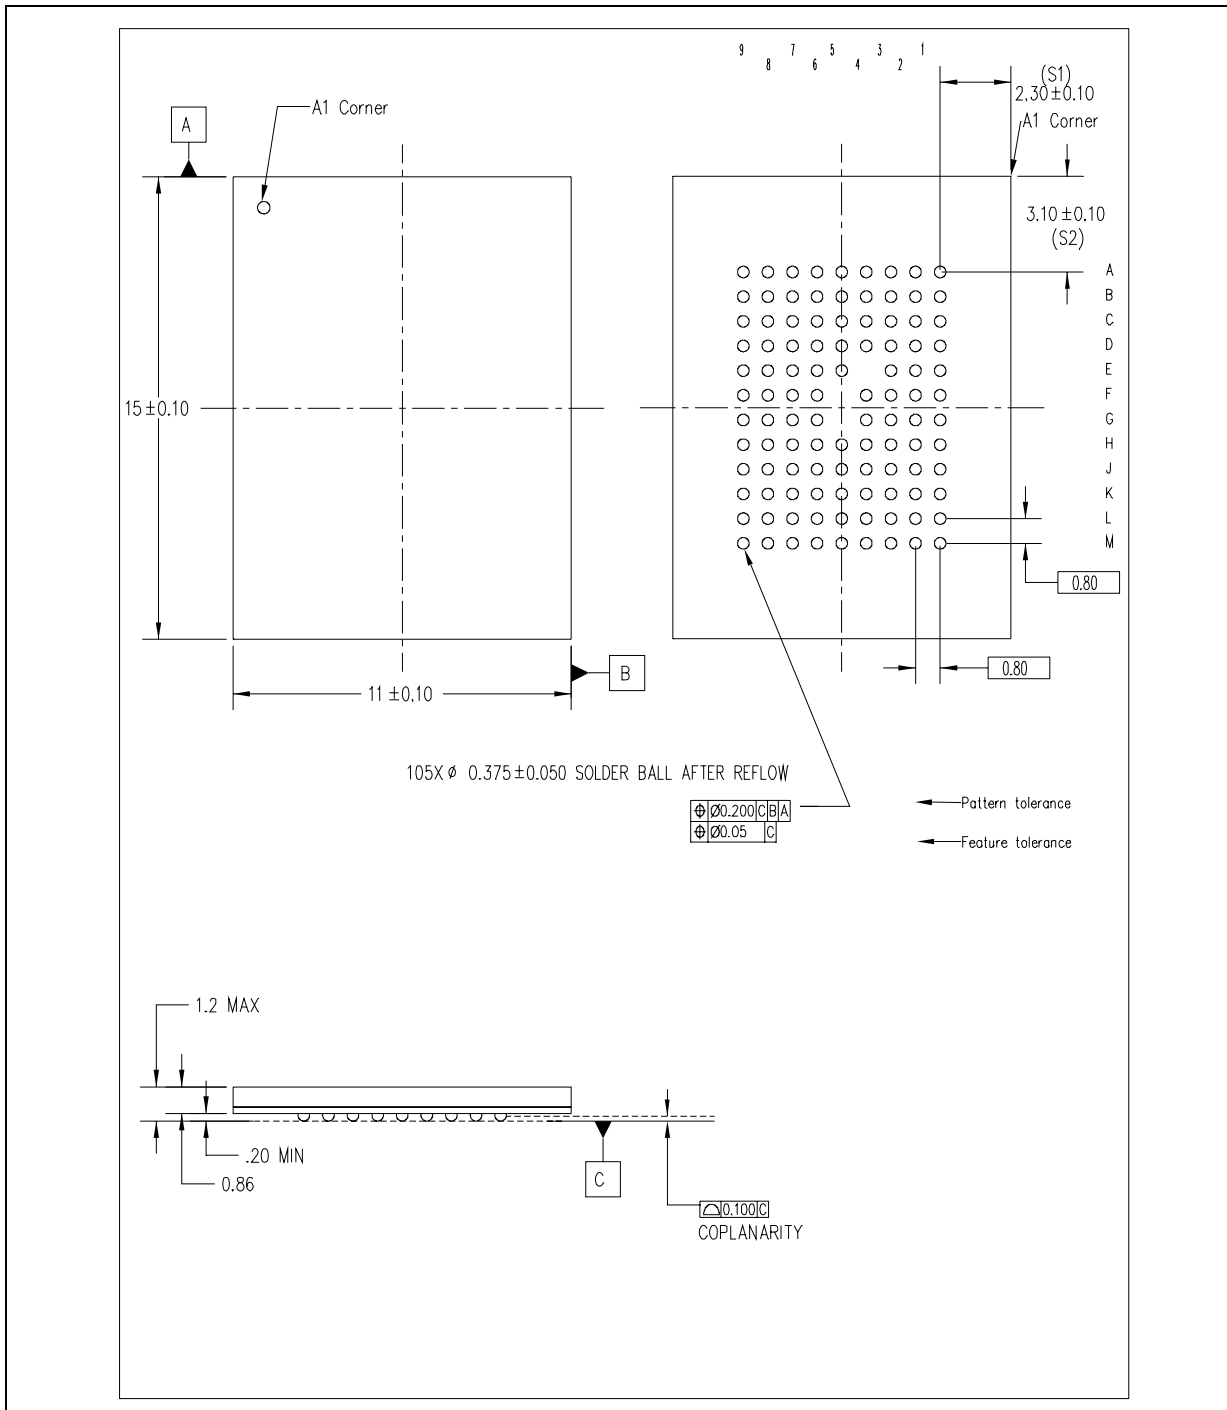

Figure 5. Mechanical Specifications for x16 Split Bus (165-ball) package (10x11x1.2 mm)
- Figure 5, "Mechanical Specifications for x16 Split Bus (165-ball) package (10x11x1.2 mm)"